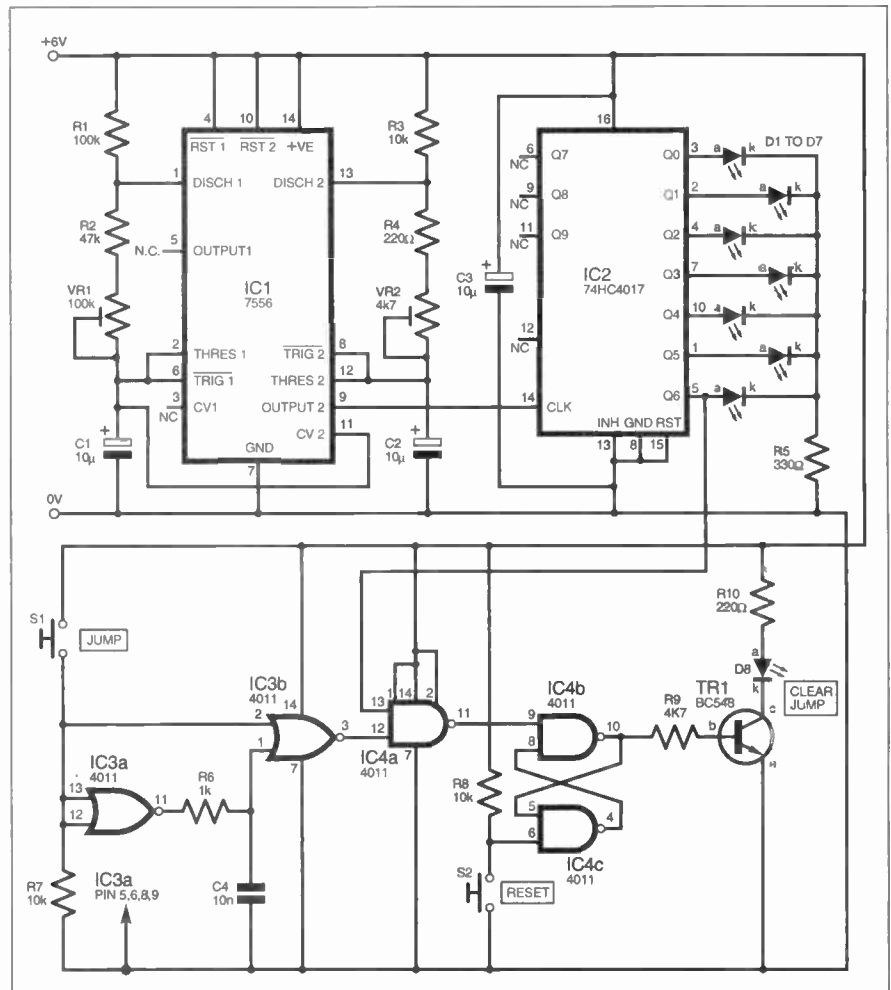

Fig.1. Complete circuit diagram for the Steeplechase Game.
Referring to the Steeplechase Game circuit diagram in Fig.1, IC2 is a decade counter that has 1-of-10 outputs. This
To understand how one timer can influence another we need to look more closely at the connections. In Fig.1 there is a connection between the positive plate of capacitor C1 and pin 11 of IC1. Pin 11 is the control voltage (CV) input of Timer 2.
flying lead connected to 0V and touch it against the individual pin sockets in the socket for IC2. The l.e.d.s should come on one at a time as the appropriate pin is grounded (see Fig.1 to check which l.e.d. should light.)